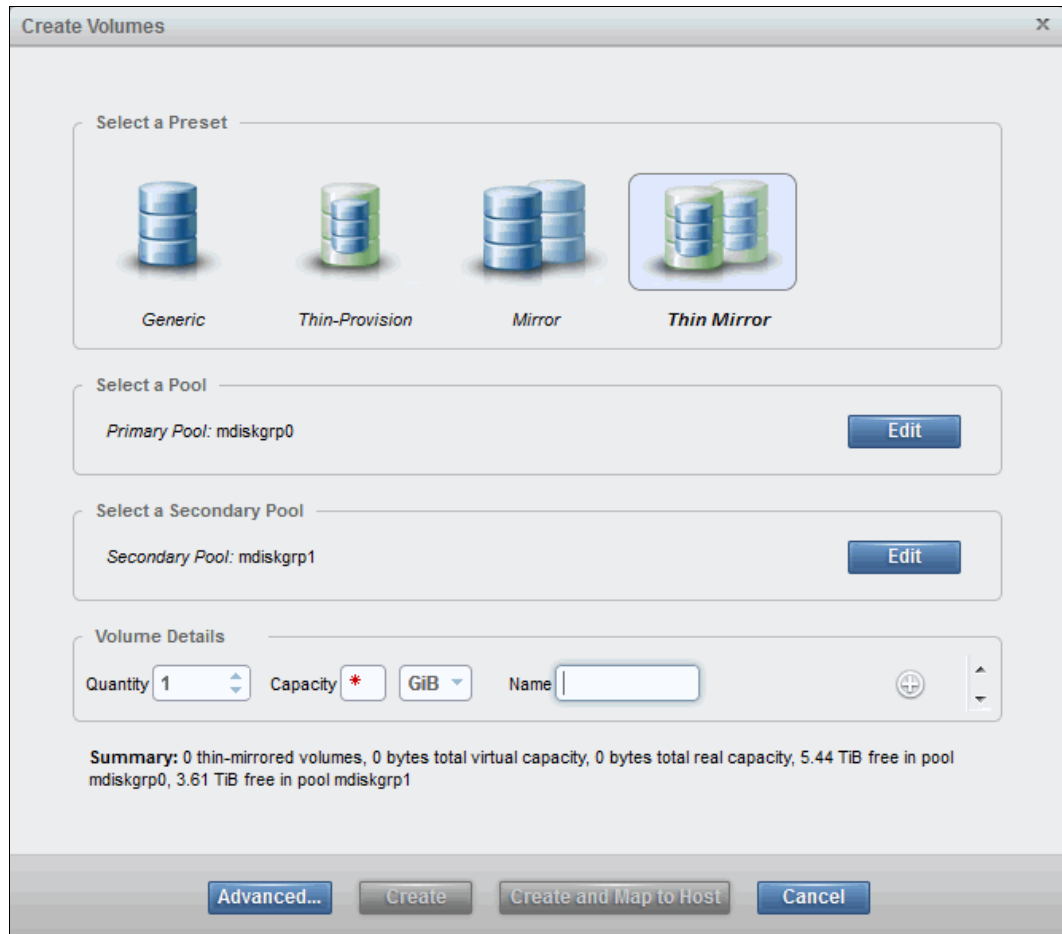

Figure 5-16 Creating thin mirrored volumes using the Create Volumes wizard
1. Select **Thin Mirror** as the preset, as shown in Figure 5-16.
2. From the list shown in Figure 5-16, for each mirrored copy, select a pool to provision storage from. To take full advantage of the redundancy offered by the mirroring feature, each copy should ideally be provisioned from separate pools.
3. The view shown in Figure 5-16 opens. From here, you can choose how many mirrored pairs to create, the capacity of each volume, and what to name the volumes.